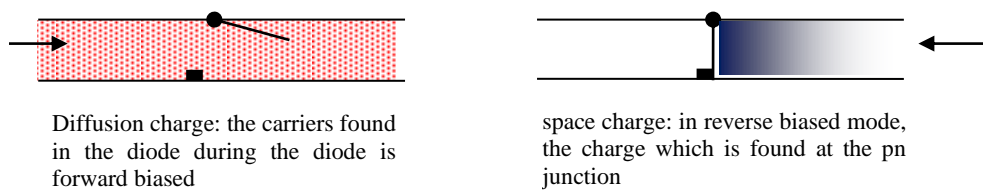

Figure 8-6. Simple pipe model of diode for explanation of transient behavior.
Let's see Figure 8-6.! Here, the diode is modeled as a pipeline with a trap door in the middle to allow the medium (e.g. a compressible gas) to flow in one direction. The particles of the gas correspond to charge carriers (electrons or holes), their flow to electric current, and the pressure to voltage in electrical terms.
- *diffusion charge*: this charge essentially corresponds to the charge found in the diode during conduction, which embodies the current flow. The greater the current flowing in the forward direction, the greater the amount of diffusion charge. (You can think of these charges as if the diode were an open pipeline and the diffusion charge is the amount of gas flowing through it; see the left side of Figure 8-6. The greater the amount of gas flowing at a given time, the greater the amount of gas in the pipe section at a given time)
- *space charge*: this charge is dominant when the diode is closed. In the closed state of the diode, the p-n junction essentially acts as an insulating layer separating two conductive layers, essentially forming a capacitor. Thus, as the reverse voltage is increased, more and more charge is accumulated at the pn junction, called space charge. The higher the reverse bias voltage, the greater the space charge. (You can think of these charges as if the diode were a pipeline closed in the middle and the space charge were a gas that accumulates more and more as the pressure in the closed pipeline increases, see the right side of Figure 8-6).